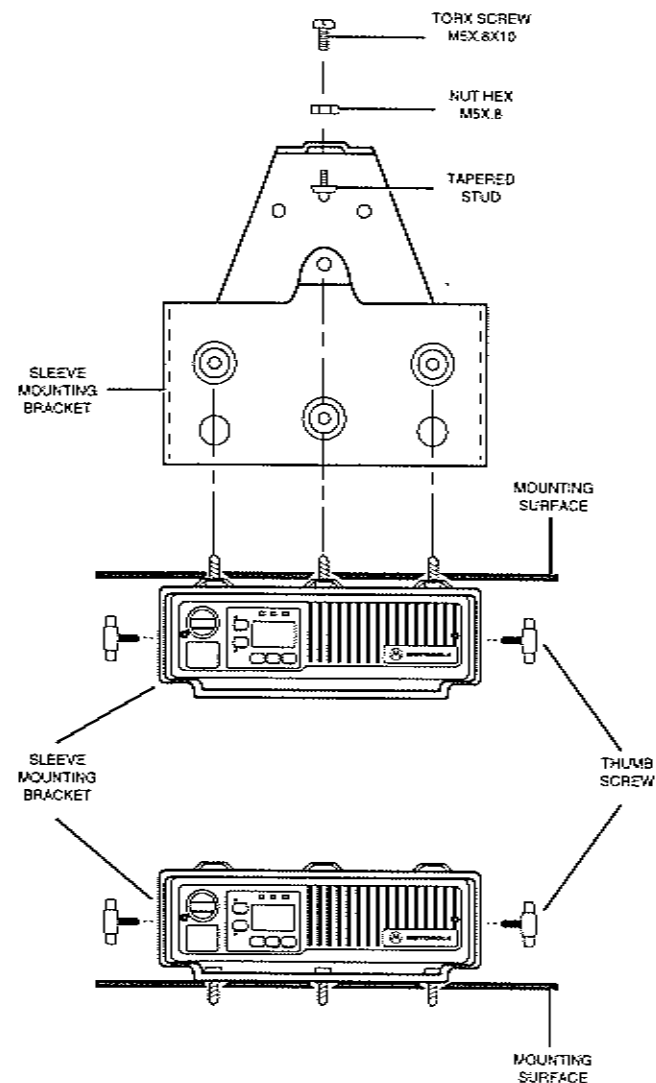

Figure 5. Sleeve Mount for Radio
- (1) Select the location to mount your radio either **ON THE DASH** or **BELOW THE DASH** (see Figure 5).
- (2) Using the sleeve-mounting bracket as a template, mark the positions of the holes on the mounting surface.
- (3) Centerpunch the spots you have marked and drill a 5/32" hole at each.
- (4) Secure the sleeve mounting bracket to the surface with the four (10-16 x 3/4") screws provided.
- (5) If there is sufficient room in the rear of the bracket to install the M5 x 0.8 x 10mm screw, proceed with step (7).
- (6) Install the tapered stud and nut in the rear hole of the sleeve-mounting bracket as shown in Figure 5.
- (7) Insert the radio into the sleeve-mounting bracket guiding the tapered pin into the hole in the rear of the heat sink. Secure it with the two thumb screws provided. If you have skipped step 6 above, install the M5 x 0.8 x 10mm TORX® screw in the rear of the bracket to secure the radio.
- (8) To complete your radio installation, plug the power cable into the radio power connector. Mount the antenna using the instructions provided with the antenna kit. Run the coaxial cable to the radio mounting location. If necessary, cut off the excess cable and install the cable connector.
- (9) Connect the antenna cable connector to the radio antenna connector on the rear of the radio.
- (10) Mount the microphone clip. Follow instructions provided with the microphone clip.
- (11) Plug the microphone into the front panel connector. Your microphone has a telephone-type connector at the end of its cord. Connect and disconnect your radio microphone in the same manner you connect and disconnect a telephone handset.